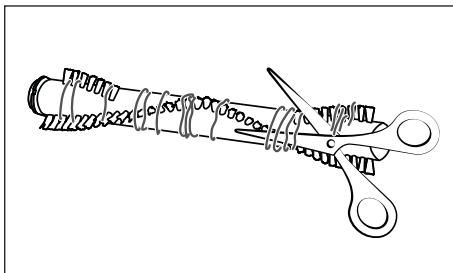

Fig. 28
- 4) Cut threads and hairs along the bristles of the rotary brush 21 with scissors (see Fig. 28). Remove threads and hair from the rotary brush 21.